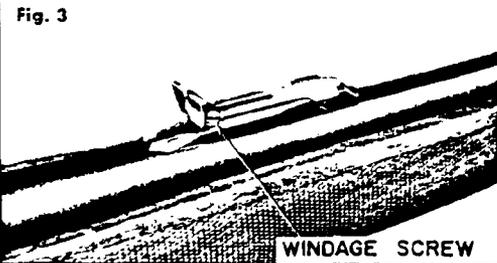

Fig. 3
**SIGHTS** — The Remington Model 660 is factory equipped with open sights (Fig. 3). Windage or elevation adjustment may be made with rear sight. The front sight is "fixed" type, not adjustable for windage or elevation.
**Note:** The windage screw is located beneath the eyepiece. (Fig. 3).